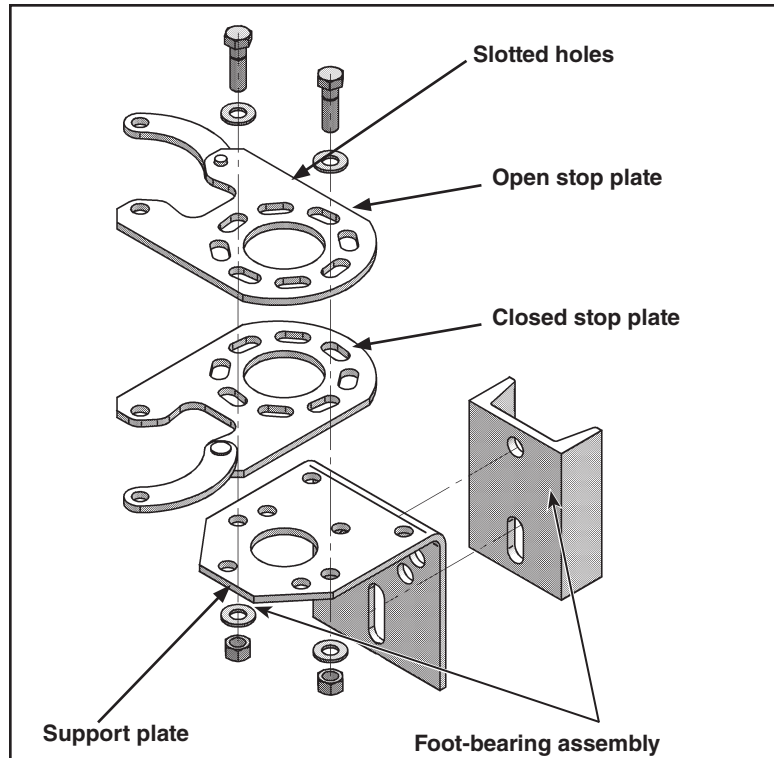

Figure 24. Exploded view of stop plates and the foot-bearing assembly.
The stop-plate holes are slotted to allow room for adjustment. Loosen the bolts that secure the adjustable stop plates to the foot-bearing support plate. See Figure 24. Place the switch in the fully **Open** position, and adjust the **Open**-position stop plate so when the handle is lowered, it fits into the **Open**-position slot. Mark the location of the **Open**-position stop plate on the support plate.
- (a) Loosen the hardware securing the closed stop plate. See Figure 24 on page 22.